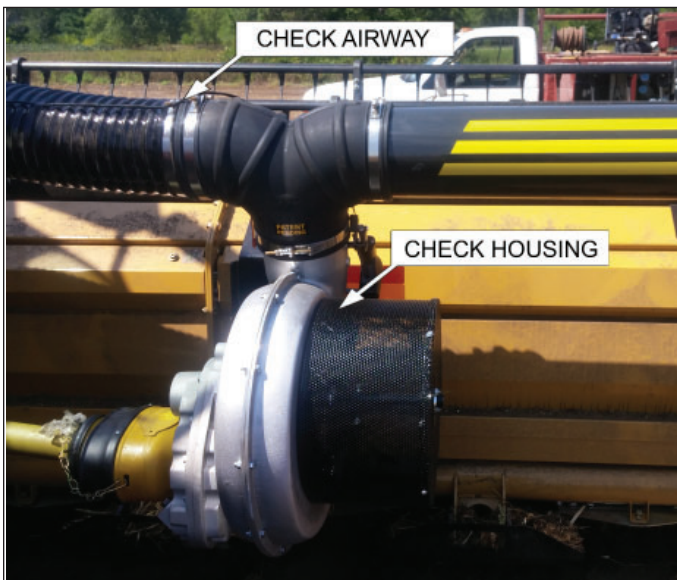
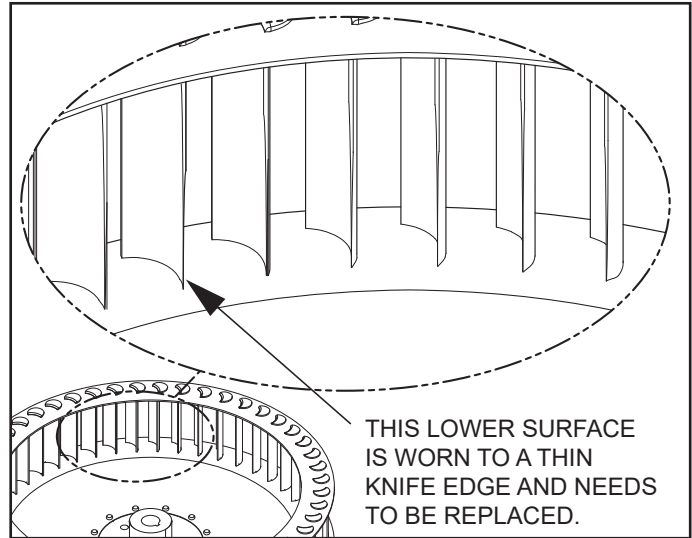

Figure 74: Checking fan housing and air hose
Figure 75: Critically worn impeller blades
1. Every 40 hours the fan housing, blades and airway (Figure 74 and Figure 75) should be checked for wear.